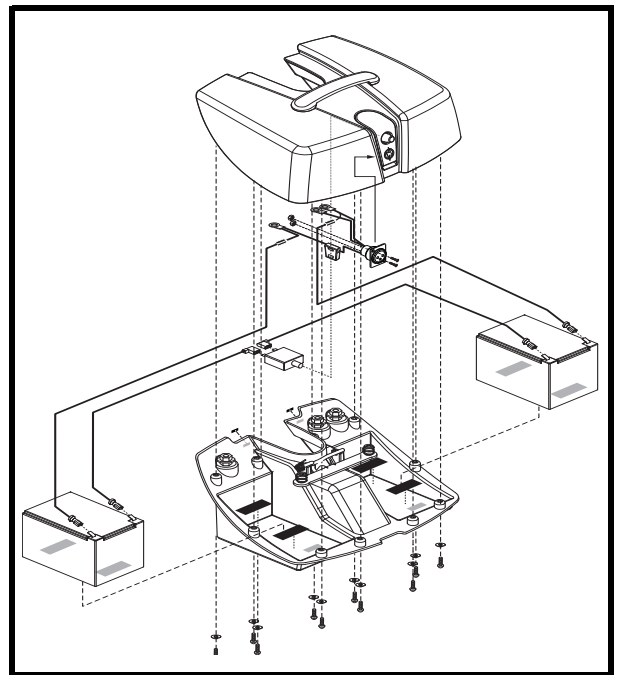

Figure 25. Go-Chair Battery Box
3. Remove all screws that hold the battery box halves together. See figure 25.
8. Reconnect the two (2) battery leads to the battery terminals. Make sure the red lead is connected to the (+) positive terminal and the black lead is connected to the (-) negative terminal.